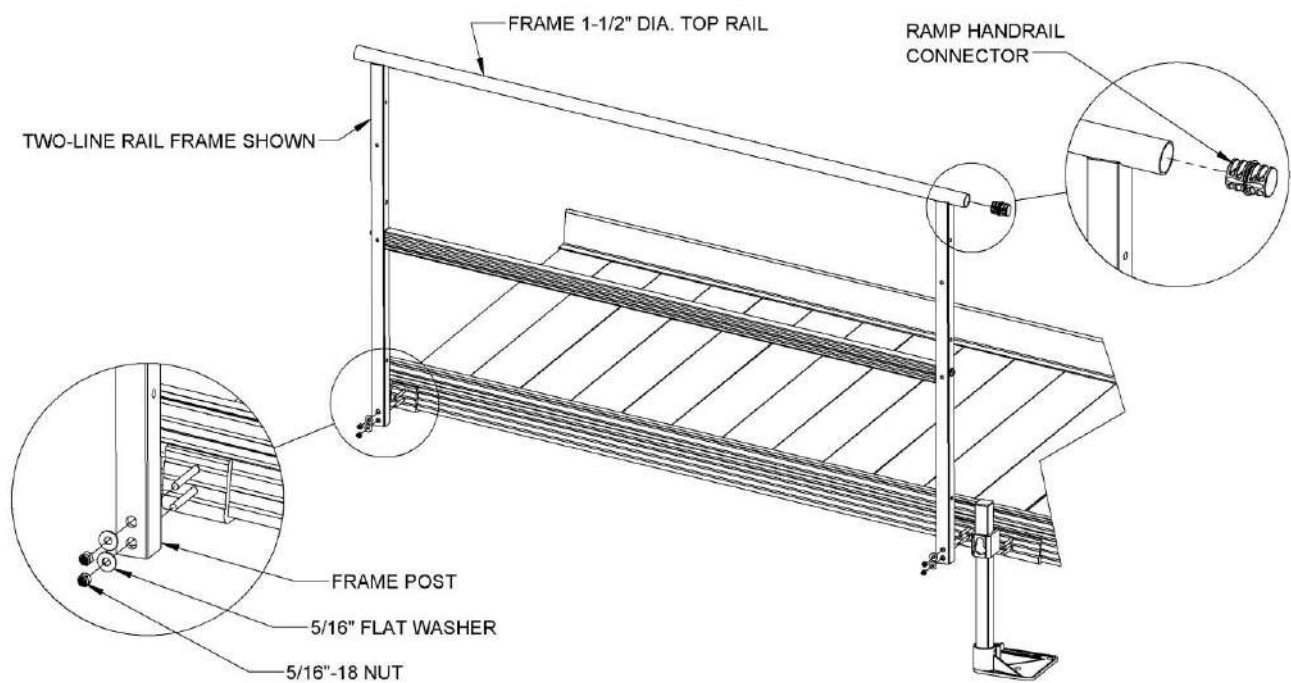

FIG. 4.1
- 4.1.3. In a multiple ramp run configuration, handrail connectors (included in the CONNECTOR RAMP TO RAMP) are used to join both frame top rails and handrails together. Refer to FIGs. 4.1 and 4.2 for the following steps: